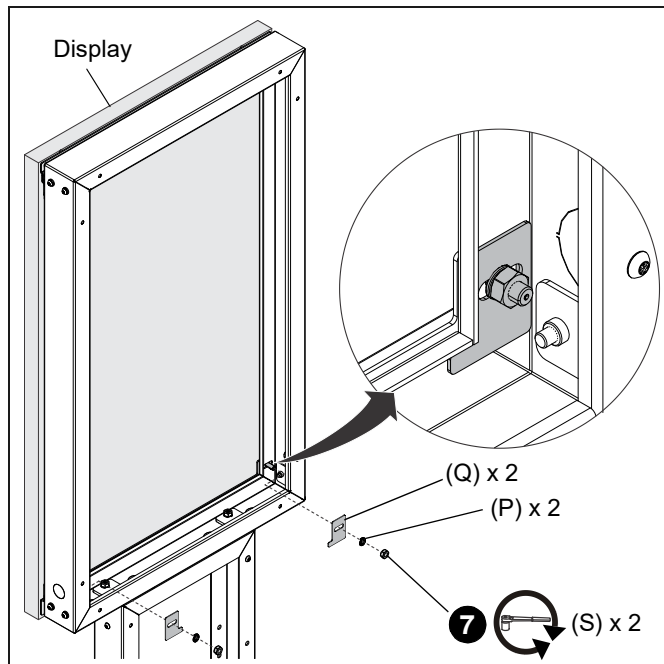

Figure 16
7. Secure the display to the frame using two small washer plates (Q), two 10mm lock washers (P), and two 10mm hex nuts (S). (See Figure 16)